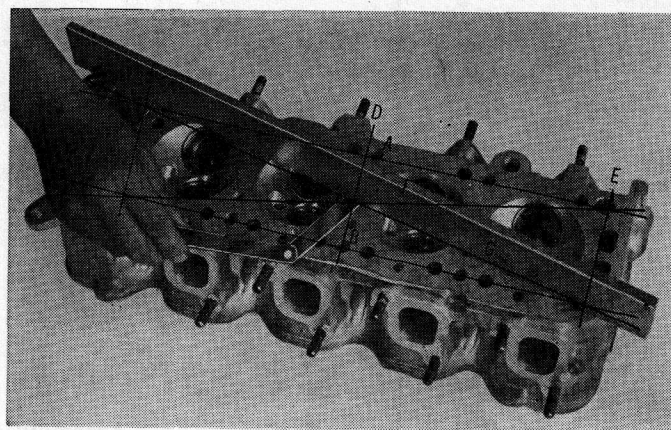

Fig. 44 Distortion Check Points
(3) Cylinder Head Distortion (Fig. 44)
Check the cylinder head for distortion by using a straight edge in the sequence of A, B, . . . as shown in Fig. 44. If the distortion exceeds the standard tolerance, correct it to less than the service limit.